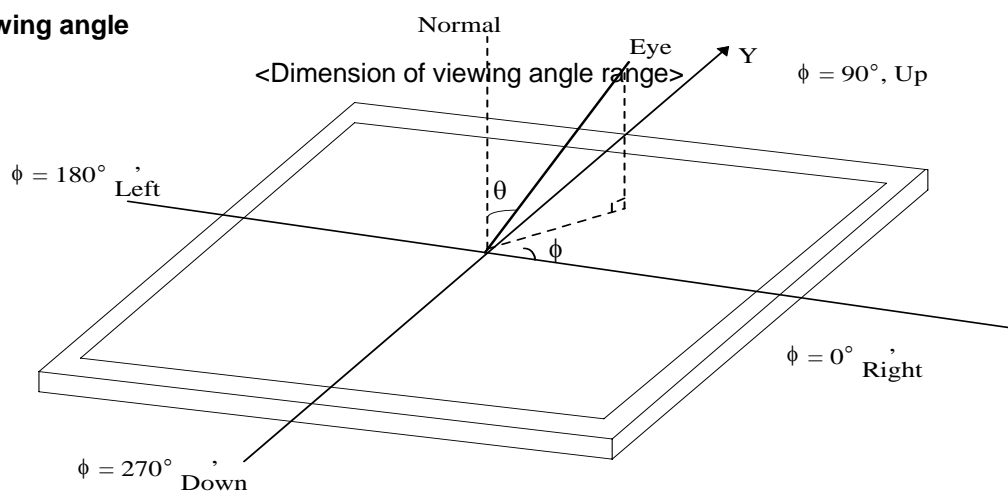

**FIG. 3 Response Time**
- Response time is the time required for the display to transition from white to black (rise time,  $T_{R}$ ) and from black to white(Decay Time,  $T_{D}$ ). For additional information see FIG 3.